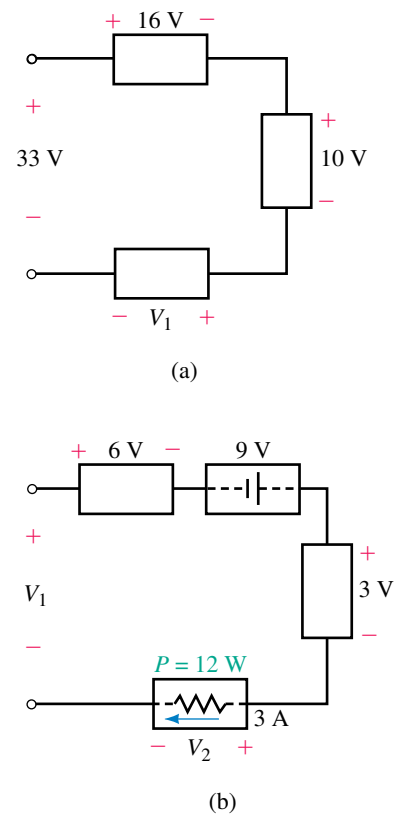

FIGURE 5–59
6. Determine the unknown voltages in the networks of Figure 5–60.